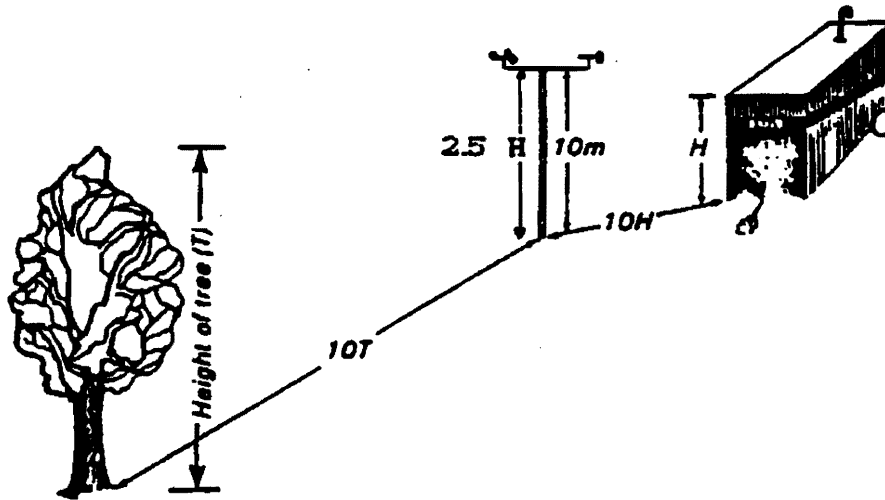

Figure 2-1 Siting Wind Instruments
Figure 2-1 Siting Wind Instruments.....	6
The standard exposure of wind instruments over level, open terrain is 10 meters above the ground. (WMO 1971), however optimum measurement height may vary according to data needs. Open terrain is defined as an area where the horizontal distance between the wind sensor and any obstruction is at least ten (10) times the height of that obstruction. An obstruction may be man-made (such as a building) or natural (such as a tree) (See Figure 2-1)